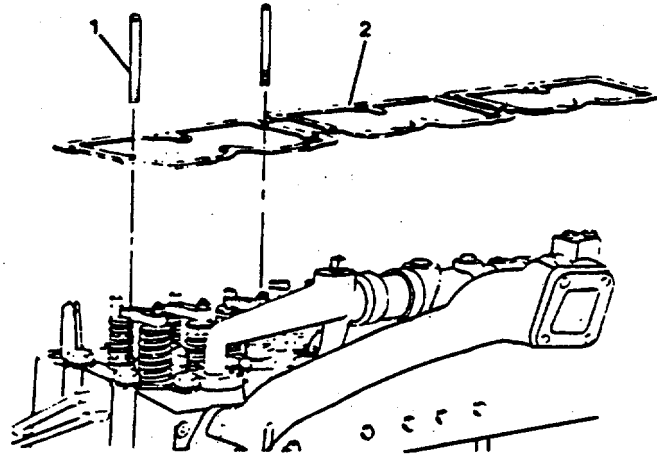

FIGURE 3-16. Rocker Housing Gaskets and Guide Studs.
- i. Install two rocker lever housing guide studs (1) in each cylinder head.
- j. Install new rocker lever housing gaskets (2, FIGURE 3-16) on the cylinder heads.
- (2) Remove the guide studs (1, FIGURE 3-16).